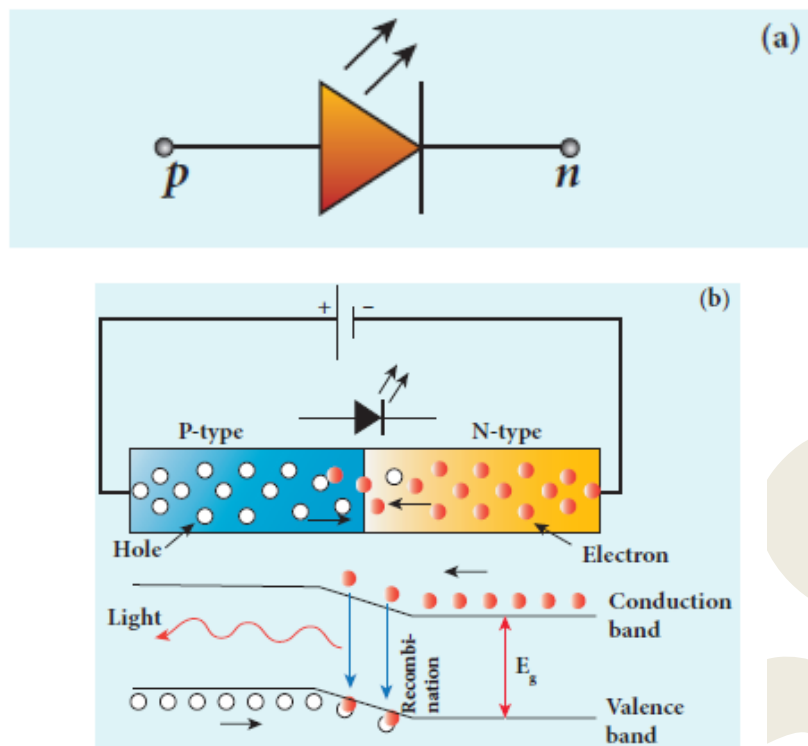

Figure 10.22 (a) Circuit symbol of LED (b) Schematic diagram to explain recombination process
- ☞ The circuit symbol of LED is shown in Figure 10.22(a). The direction of arrows indicates that light is emitted from the diode.
- ❖ These excess minority carriers recombine with oppositely charged majority carriers in the respective regions, i.e. **the electrons in the conduction band recombine with holes in the valence band** as shown in the Figure 10.22(b).